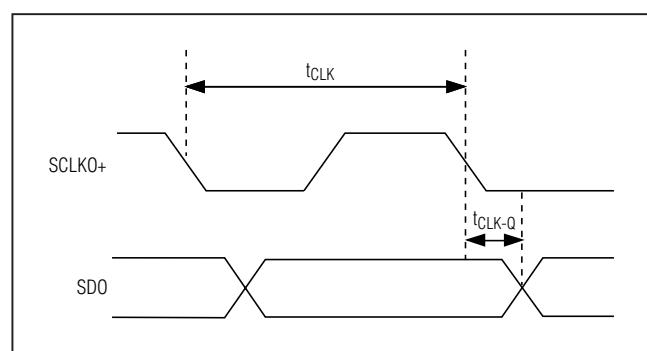

Figure 2. Definition of Clock-to-Q Delay
**Note 5:** Relative to the falling edge of SCLK0+. See Figure 2.